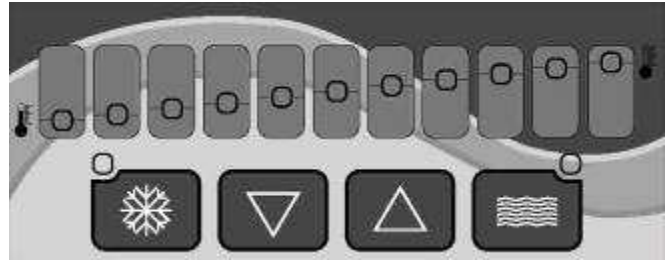

Fig. 6
- Activate the FROZEN mode by switching on the snowflake button (LED activated), and regulate the product consistency by setting its value with the ▼ e ▲ buttons (fig.6).
- In order to modify the product consistency, regulate it using the buttons ▼ and ▲ on the control board. Operating on the ▲ button, the number of lighted LED will increase with the product consistency; operating on the ▼ button, the number of lighted LED will decrease with the product consistency (fig.6).